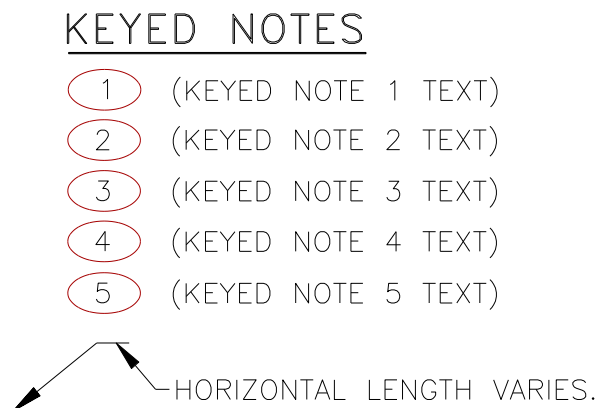

Figure 213-8. Keyed Notes Legend Format Example
- H. The Keyed Note symbol is an oval with a number designation. The standards established for text apply to the numeric character in the Keyed Note bubble. See Figure 213-8 for an example of the Keyed Note style.